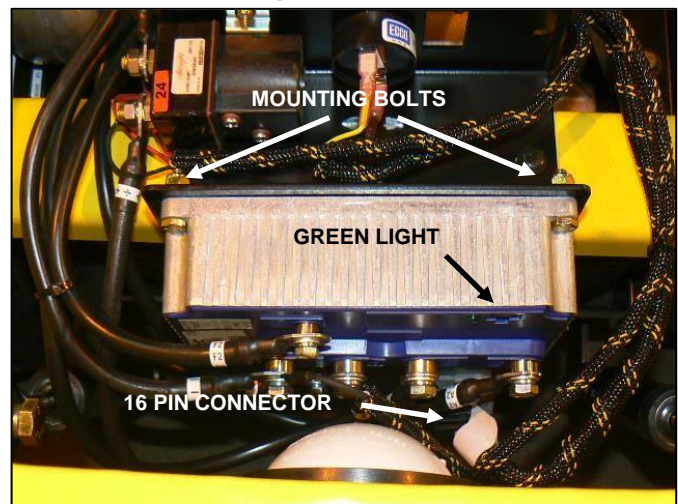

Figure 10-20
1. Look for the steady green light on the side of the controller. If it is on, the system is OK and ready (Figure 10-20).
4. Remove 16 pin controller connector (Figure 10-20).